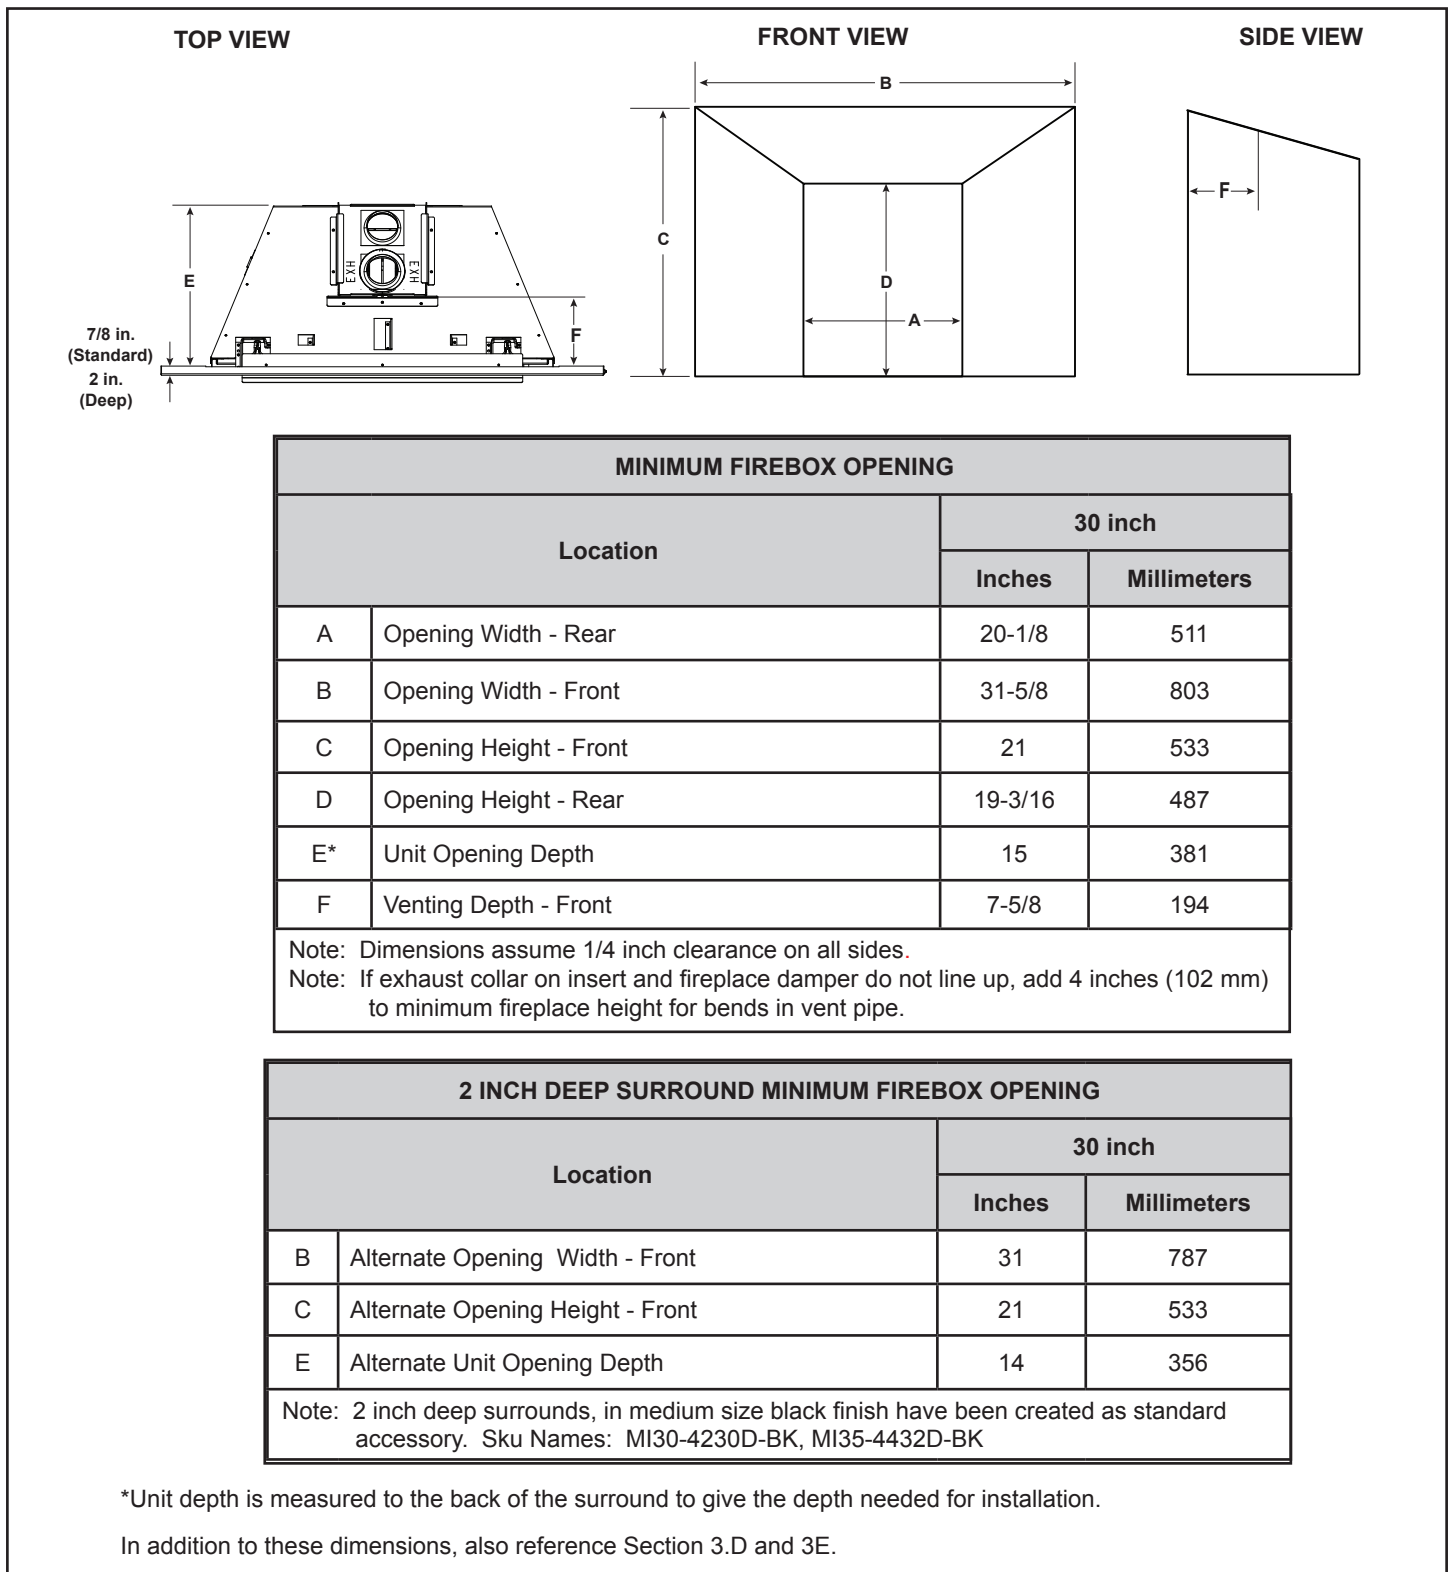

Figure 3.8 Firebox Opening - Standard Surround - 3/4 in.
*Note: Location G is the appliance depth measurement, for installation depth reference Location E on Figure 3.8.